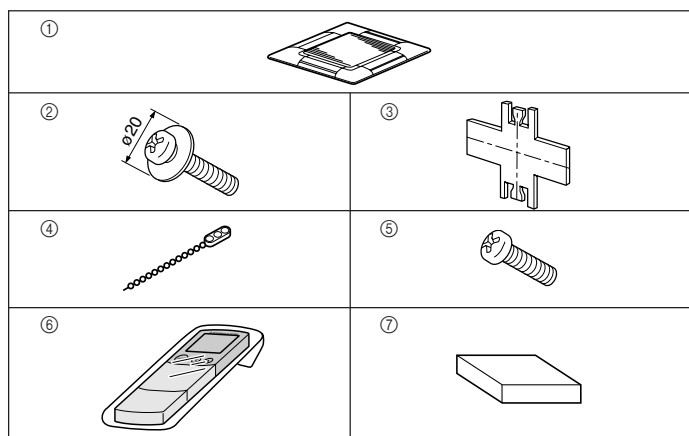

Fig. 10-1
10.1. Checking the contents (Fig. 10-1)